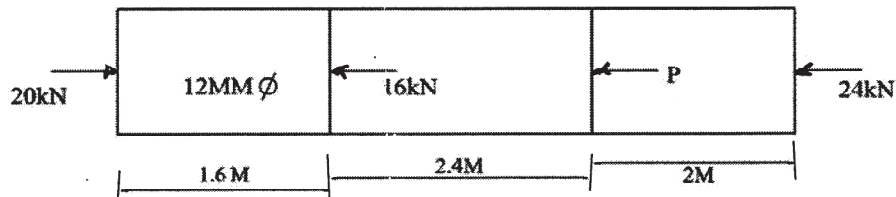

Figure 1.1
1. (a) Determine load 'P' and total elongation of the bar. Refer figure 1.1. Assume $E = 200 \text{ GPa}$. [6]